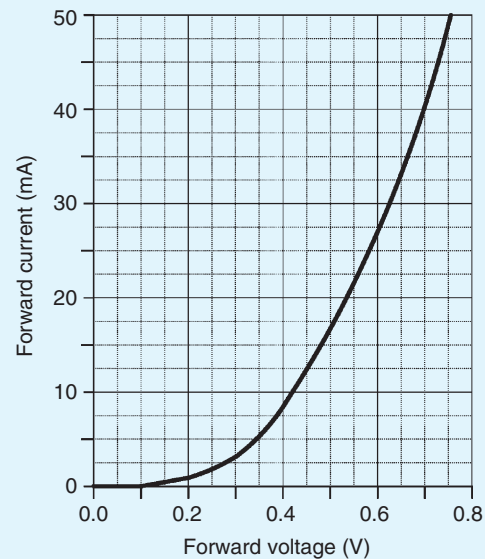

Figure 11.13
- The graph shown in Fig. 11.13 was obtained during an experiment on a diode. (a) What type of diode is this? Give reasons. (b) Determine the forward current for a forward voltage of 0.5 V. (c) Determine the forward voltage for a forward current of 30 mA. (d) Determine the resistance of the diode when the forward voltage is 0.4 V